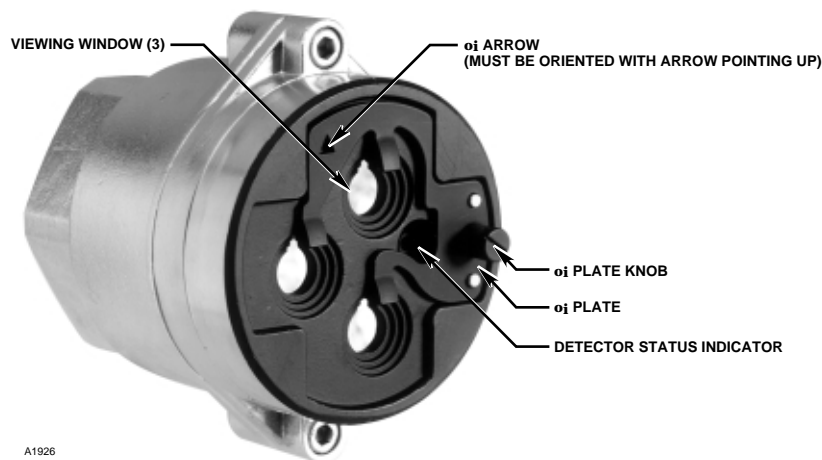

Figure 2—Front View of the X3300 Detector
- Figure 2 – Front View of the X3300 Detector
Refer to Figure 2 and insure that the **oi** plate will be oriented as shown when the X3300 is mounted and sighted. This will ensure proper operation of the **oi** system and will also minimize the accumulation of moisture and contaminants between the **oi** plate and the viewing windows. The **oi** plate includes an arrow, which should be pointed in the up direction, indicating that the **oi** plate and detector are correctly oriented.